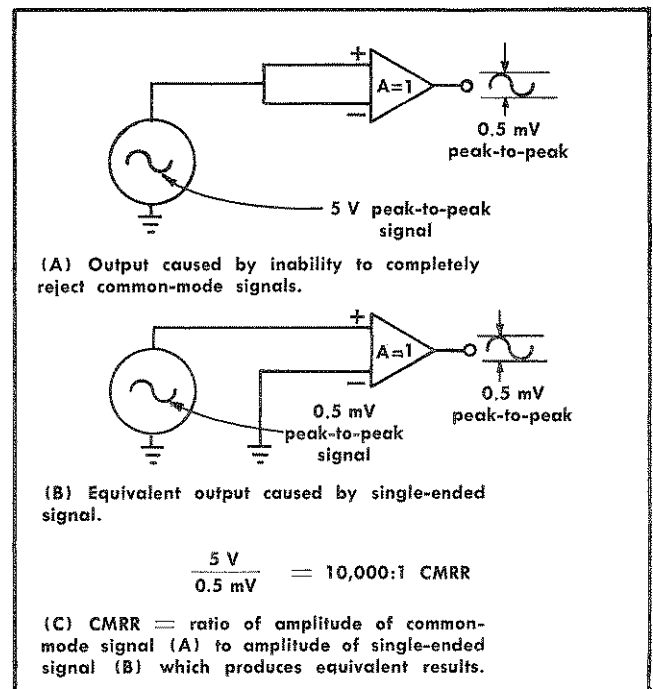

Fig. 2-1. Common-mode rejection ratio.
**Common-Mode Rejection Ratio**—A ratio which expresses the efficiency of a device in preventing common-mode signals from affecting its output. A differential amplifier, like all other things, cannot be a perfect device. Some output signal, however small, always occurs in response to common-mode signals applied to the two inputs. In any specific instance, an output resulting from application of common-mode signals can be duplicated by grounding one input and applying a specific size signal to the second input. The comparison of the common-mode signal to the single-ended signal is the Common-Mode Rejection Ratio of the device. See Fig. 2-1.